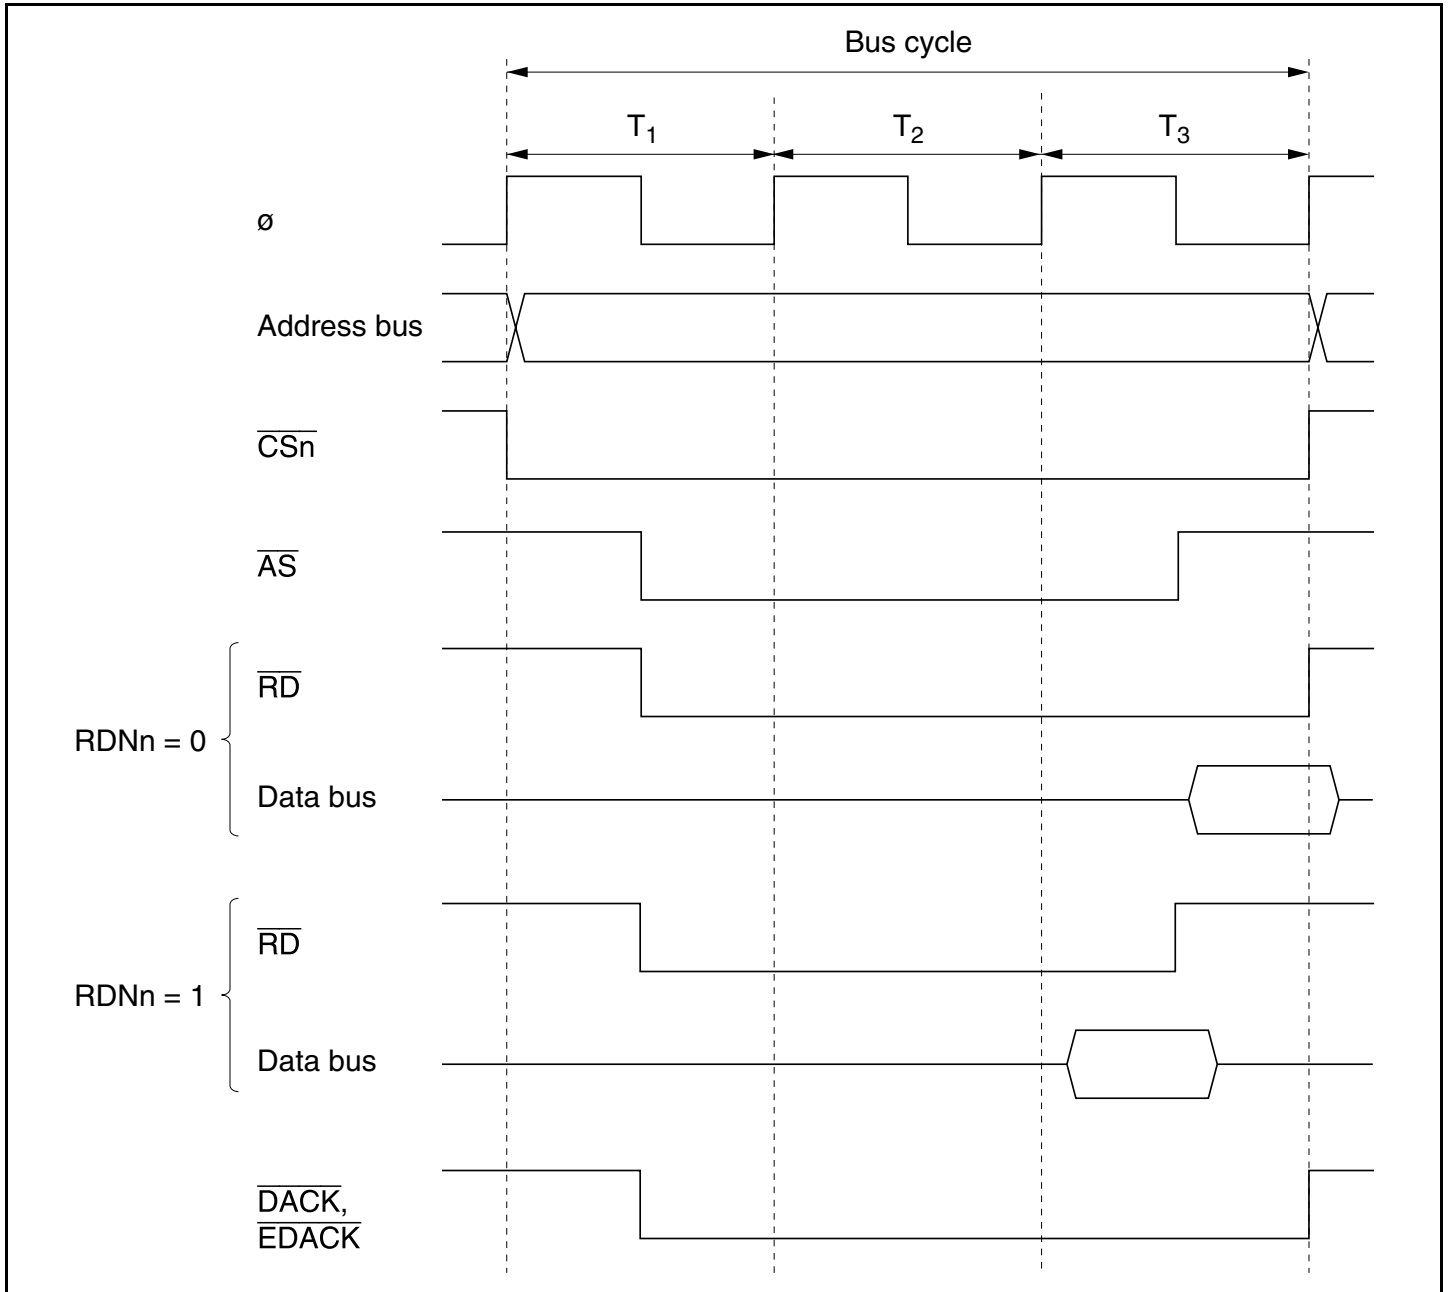

Figure 6.19 Example of Read Strobe Timing
6.5.5 Read Strobe (RD) Timing
The read strobe (RD) timing can be changed for individual areas by setting bits RDN_7 to RDN_0 to 1 in RDNCR . Figure 6.19 shows an example of the timing when the read strobe timing is changed in basic bus 3-state access space.